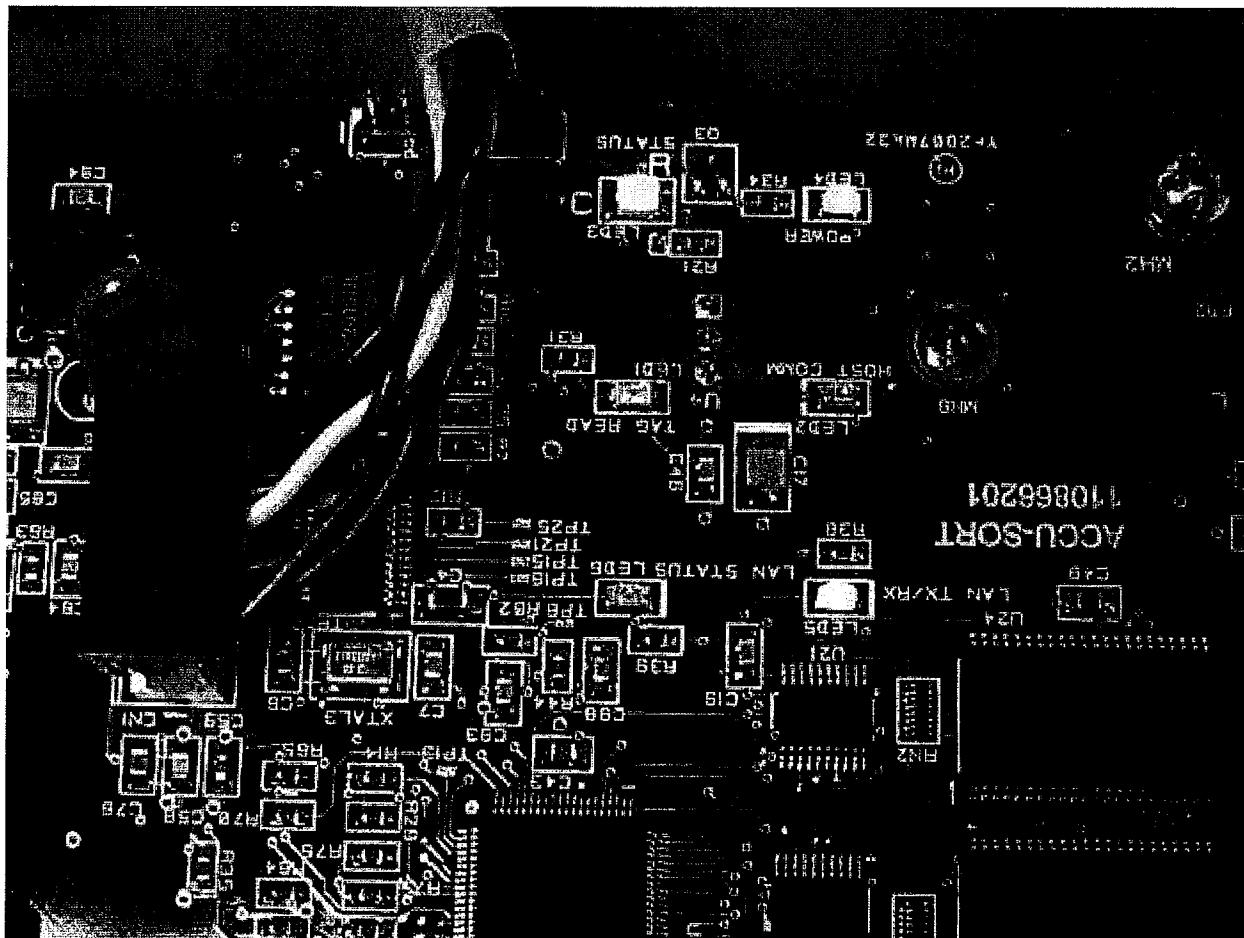

Figure 8
- 9.4.7 Check that the following LEDS are on or flashing as described below. Note LED 5 and 6 Silkscreen labeling is wrong with respect to their function, but is ignored for clarity. See figure 8 for LED locations.